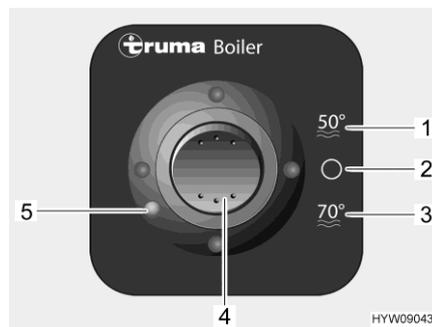
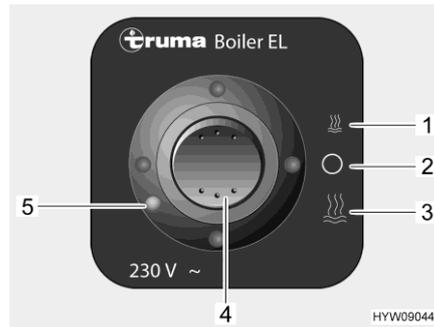

Fig. 85 Control unit for gas operation (Truma boiler)
Fig. 86 Control unit for 230 V operation (Truma boiler)
- Set the flip switch (Fig. 85,4) to "50 °C" (Fig. 85,1) or to "70 °C" (Fig. 85,3).
- Set the flip switch (Fig. 85,4) to "0" (Fig. 85,2).
- ▷ If there is a fault present, the indicator lamp (Fig. 85,5) will be lit red.
- Set the flip switch (Fig. 86,4) to low output (Fig. 86,1) or to high output (Fig. 86,3).
- Set the flip switch (Fig. 86,4) to "0" (Fig. 86,2).
- ▷ If there is a fault present, the indicator lamp (Fig. 86,5) will be lit red.
- ▷ If there is a fault present, the indicator lamps (Fig. 85,5 and Fig. 86,5) will be lit red.
- Set the flip switch for gas operation (Fig. 85,4) and/or the flip switch for 230 V operation (Fig. 86,4) to "0".